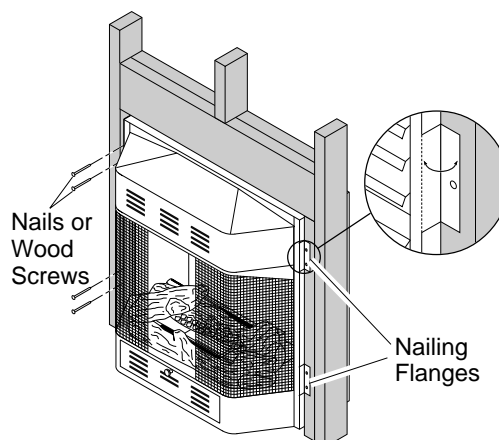

Figure 8 - Attaching Fireplace to Wall Studs
7. Bend four nailing flanges on outer casing with pliers (see Figure 8).